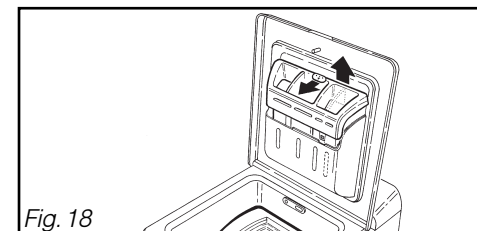

Fig. 18
- Push the button forwards and pull the dispenser upwards (Fig. 18).